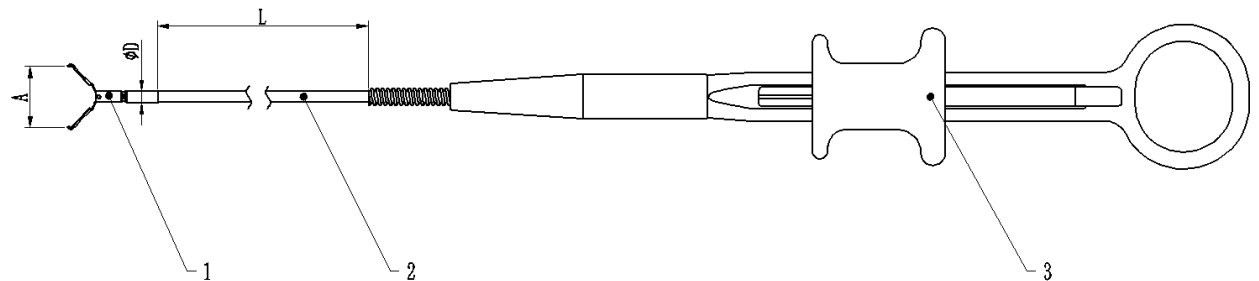

Figure1: Components of the disposable hemoclip
1) Disposable Hemoclip consists of the clip (clamp and base), tube and hand holder (it has different models which are suffix with JZ-9, JZ-11, JZ-14, JZ-17, JZR-9, JZR-11, JZR-14 and JZR-17 in different outer diameter and working length for rotatable or non-rotatable type to match with the compatible endoscope), please see figure 1.